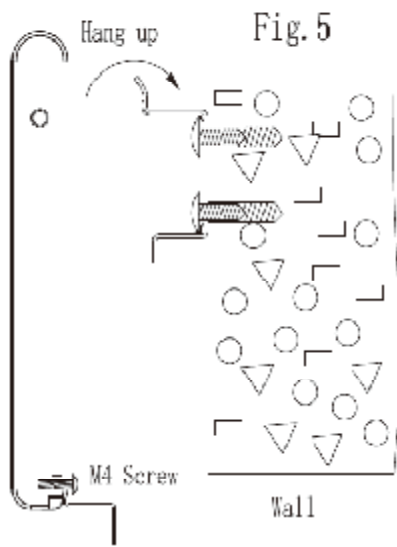

Fig. 5
4. Hang the thermal emitter and mark the point to be drilled bottom bracket (Fig 5).